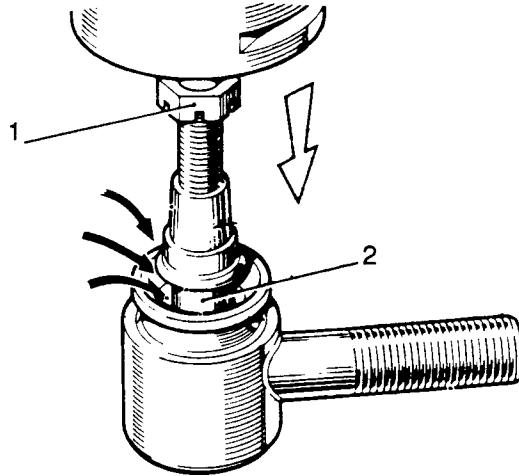

Fig L5.19
- (4) Refer to Fig L5.19. Place the castle nut (1) upside down on the pin and screw on a few threads.
- (5) Place the ball joint under a press or between the jaws of a vice and carefully force the pin and ball down against the spring. In this position the interior of the ball joint can be cleaned and lubricated.
- (6) Apply grease around the taper (2) and fill the replacement rubber boot.